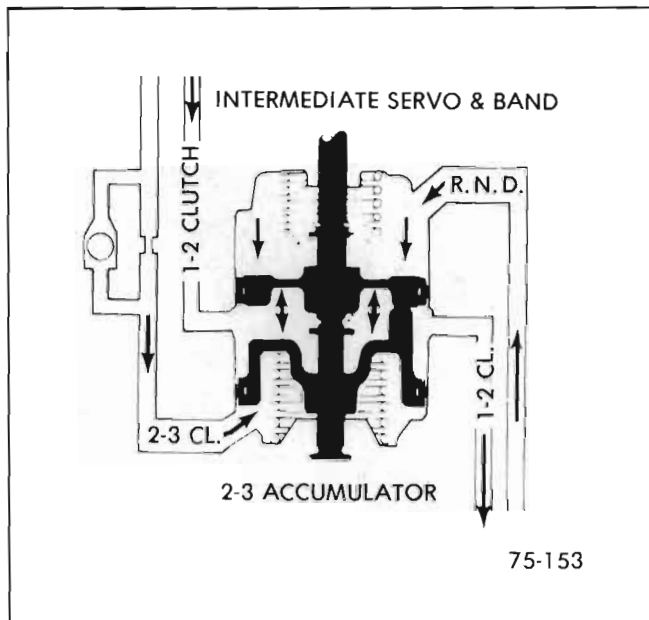

Figure 75-21 - 2-3 Accumulator
**H. 2-3 Accumulator (See Figure 75-21)**